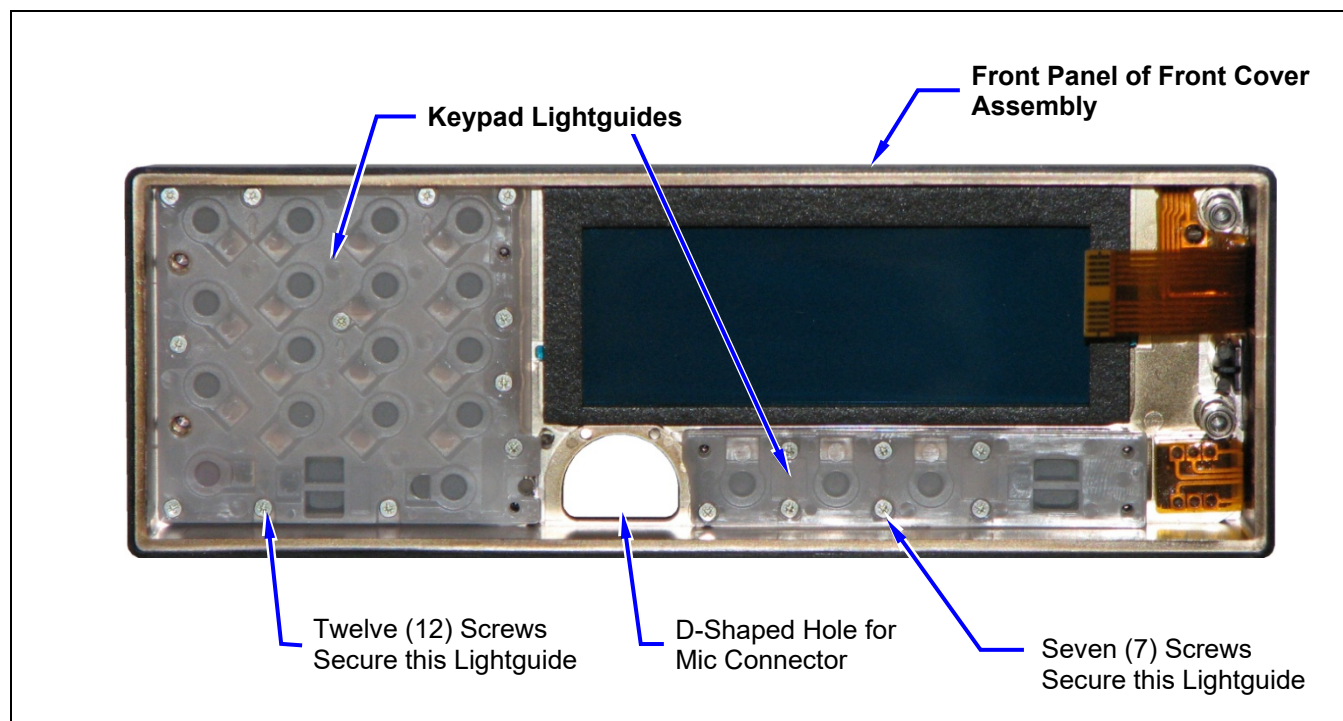

Figure 5-4: Keypad Lightguides and Related Hardware (Rear View of Front Panel)
- a. Remove the 12 Phillips-head screws securing its keypad lightguide to the front panel. See Figure 5-4.
- a. Remove the seven (7) Phillips-head screws securing its keypad lightguide to the front panel. See Figure 5-4.
Each lightguide has small counter-sunk holes, and molded-in arrows on one side that indicate which holes require screws. This side of the lightguide must be rear facing when the lightguide is seated in the cover. See Figure 5-4.
5. At the small counter-sunk holes, install but do not tighten short Phillips-head screws to secure each lightguide to the front panel. These screws are approximately ¼-inch long (6 millimeters). Do **not** use any of the longer screws for securing the Keypad Board and its shield to the front panel. The larger lightguide requires 12 screws and the smaller lightguide requires seven (7) screws. Some of these holes are identified by molded-in arrows. See Figure 5-4.
2. Verify all 19 screws used to secure the keypad lightguide are in place and securely tight. As shown in Figure 5-4.
5. Place the shield over the board and loosely install five (5) Phillips-head screws.